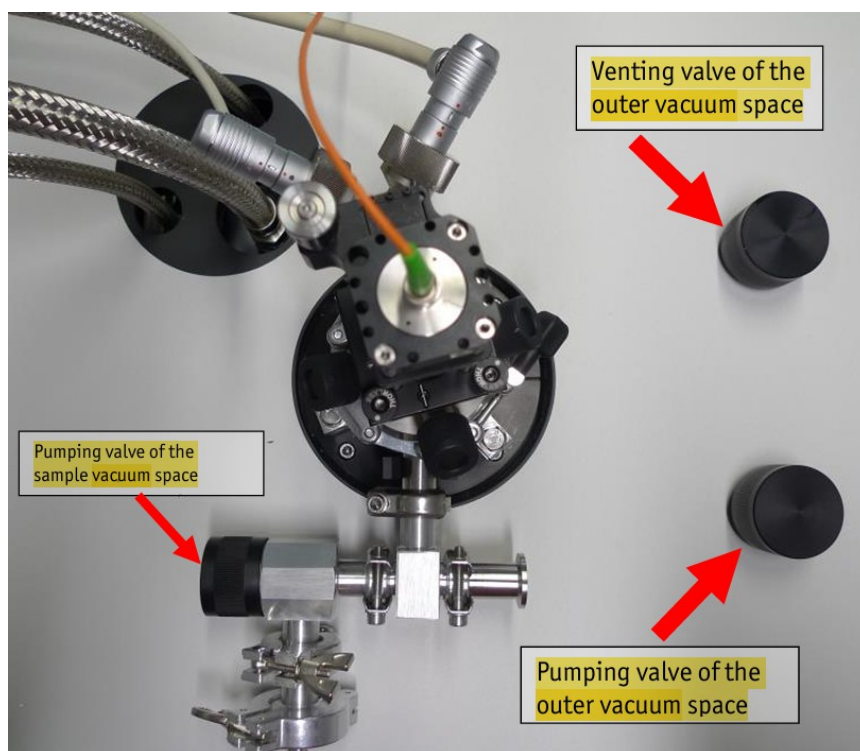

Figure 6: top view of the attoDry1000 with the venting and pumping valve of the outer vacuum space.
6. Open the venting valve (Figure 6) of the sample tube and open the valve on the gas cylinder.